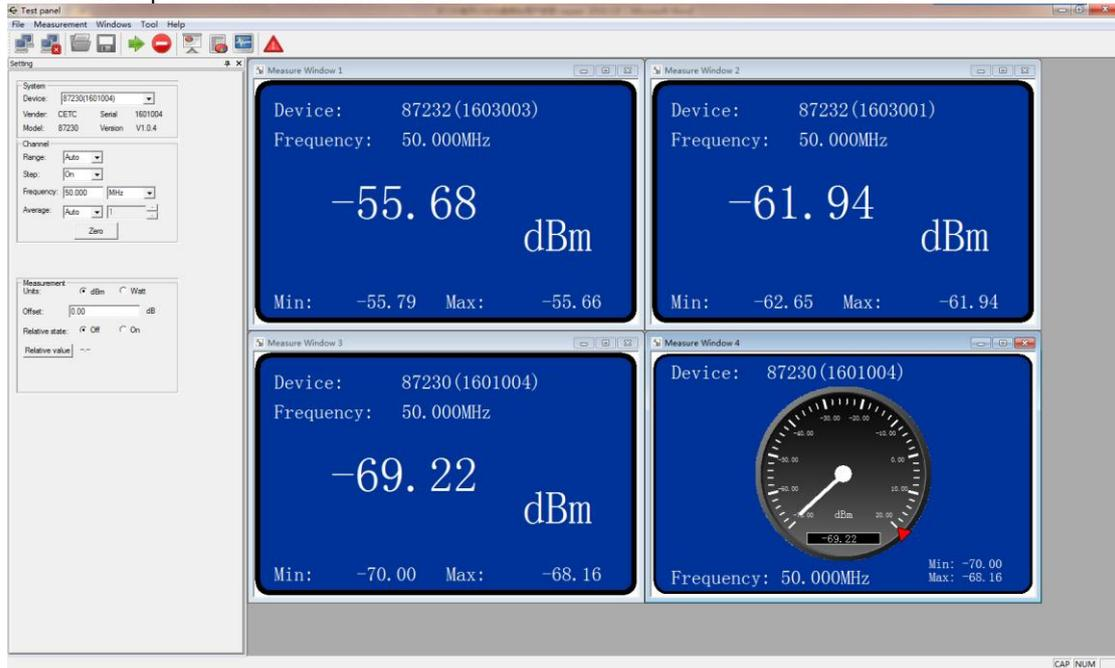

Figure 4.6 Measurement Window Connected with Multiple USB Continuous Wave Power Sensors
Step 2. Click the  or  button on the toolbar to open the measurement results of other power sensors with numeric display or analog display, as shown in Figure 4.6;